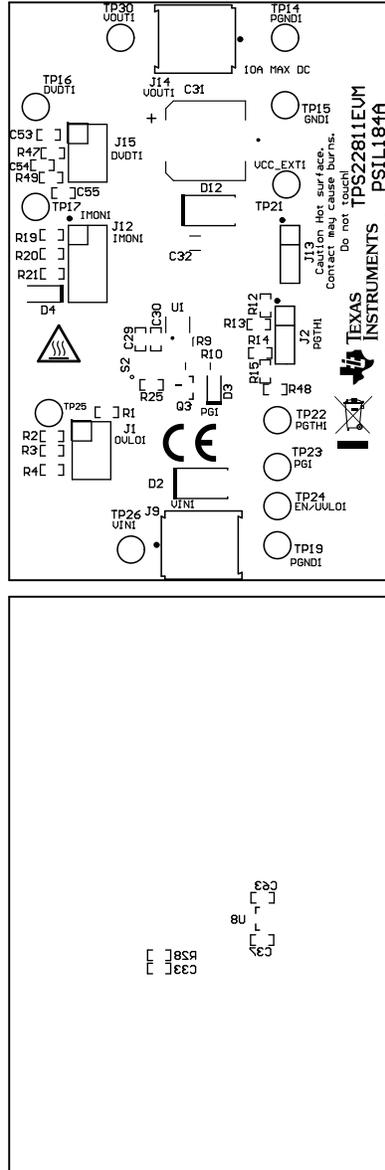
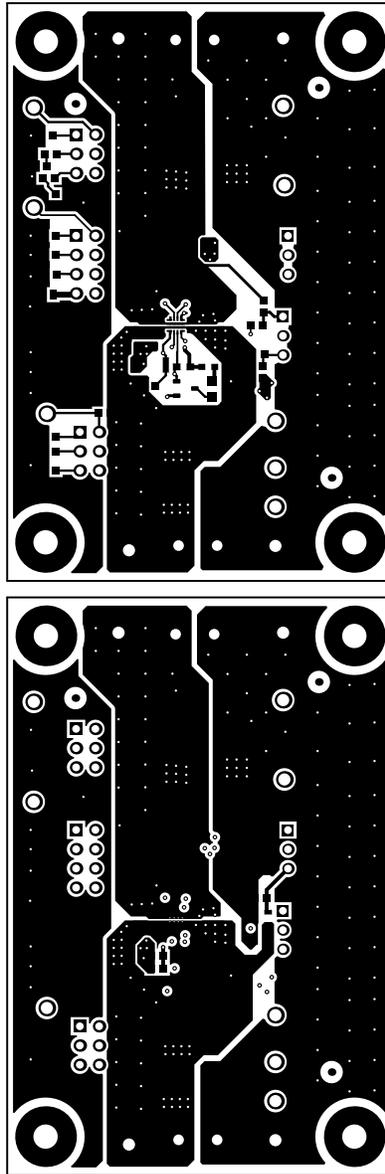

Figure 6-1. TPS22811EVM Board (a) Top Assembly (b) Bottom Assembly
Figure 6-2. TPS22811EVM Board (a) Top Layer (b) Bottom Layer
Figure 6-1 shows component placement of the EVAL Board. Figure 6-2 shows PCB layout images.
• Updated <a href="#">Figure 6-1</a> and <a href="#">Figure 6-2</a> .....	<a href="#">11</a>